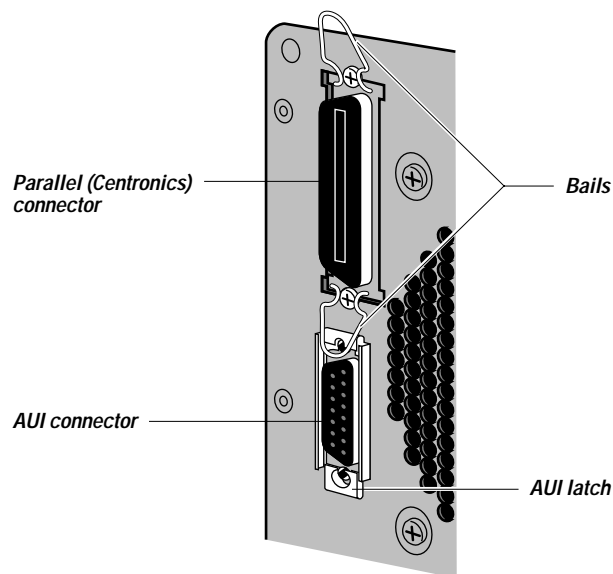

Figure 5-19 Centronics and AUI connectors on the motherboard
2. *Remove the two bails on the parallel connector (see Figure 5-19).*
4. *Remove the two screws and the latch on the AUI connector. Note the orientation of the latch so it can be replaced correctly later (see Figure 5-19).*
To replace the bails, squeeze the edges of the bail together and insert it into the holes in the connector (see Figure 5-19 on page 5-25).
Make sure the latch is oriented as shown in Figure 5-19 on page 5-25. Push the latch up to secure the bottom screw.